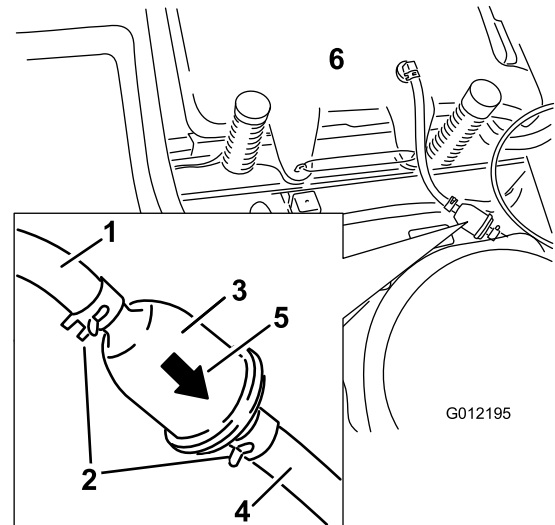

Figure 36
4. Squeeze the ends of the hose clamps together and slide them away from the filter (Figure 36).
6. Install a new filter with the flow direction arrow coming from the fuel tank and pointing to the engine. Move the hose clamps close to the filter (Figure 36) to secure it in place.